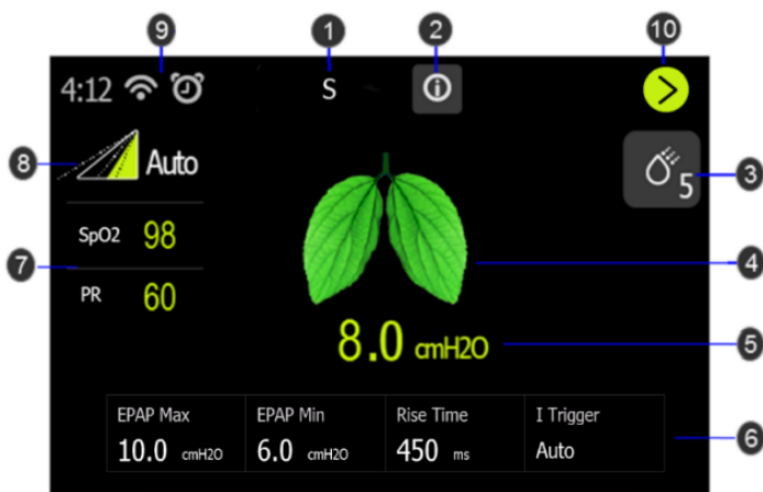

Figure2 Patient Therapy Clean Interface
3. Press the Therapy On/Off key on top of the device to turn on airflow and begin therapy. The screen will display to patient therapy clean interface (see Figure 2).
When the therapy starts, the screen will switch to the Patient Therapy Interface, which displays the therapy parameters monitoring during therapy. The default screen is a clean interface (See Figure2) only displaying key parameters of the current therapy mode. For more information about therapy, you can switch to a detail interface (See Figure3) which displays pressure and flow real-time waveform, tidal volume, minute volume, leak etc. The displayed parameters depend on the current therapy mode.